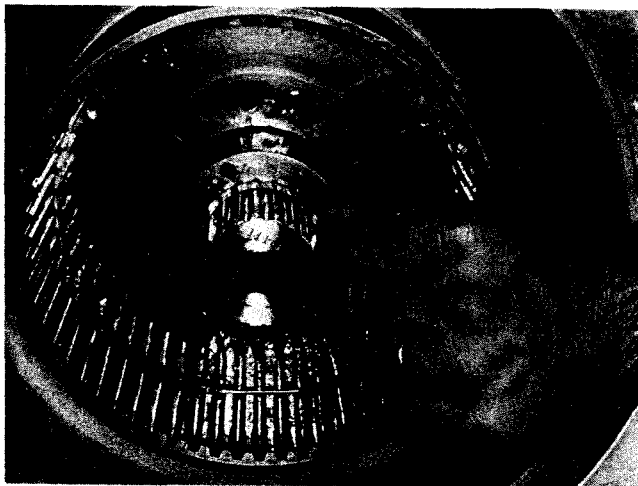

Fig. 5-4, (V22002). Removing snap ring from drive shaft
6. Remove snap ring securing driving drum in oil dam, Fig. 5-4, lift out driving drum.